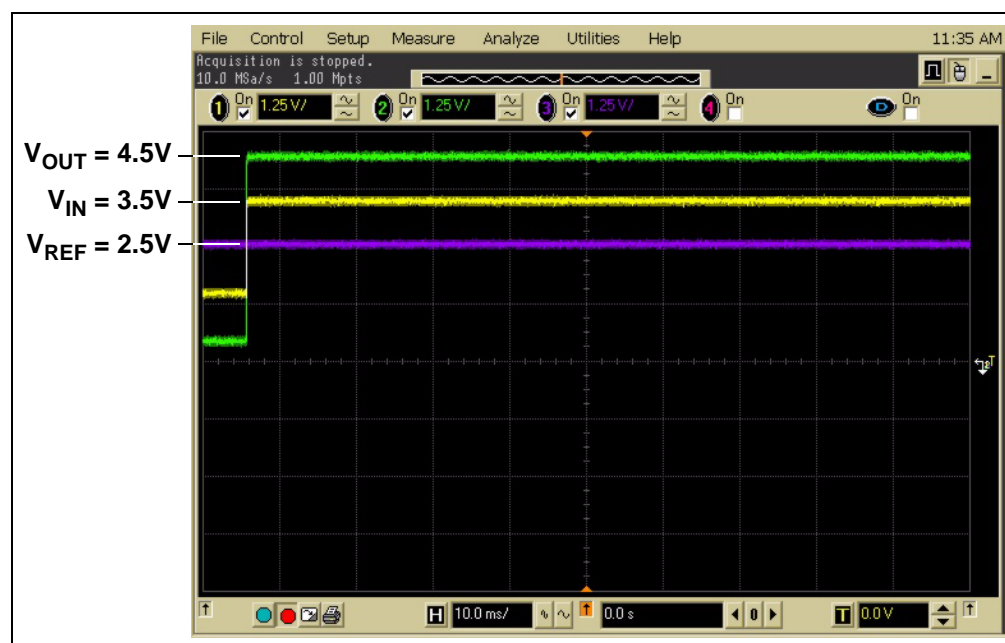

FIGURE 2-25: Measured Step Response.
- The measured step response is shown in Figure 2-25. It is a signal with a step amplitude of 4.0V and an center voltage of 2.5V. (i.e. V_{OUT} starts 2.0V below center and ends 2.0V above center).